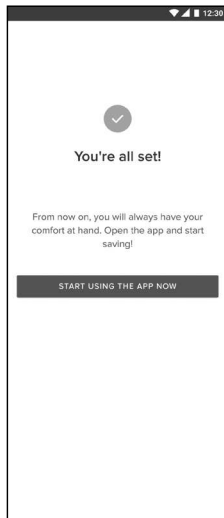

FIG. 9
- Choose a name for your system and that's it! (FIG. 9)